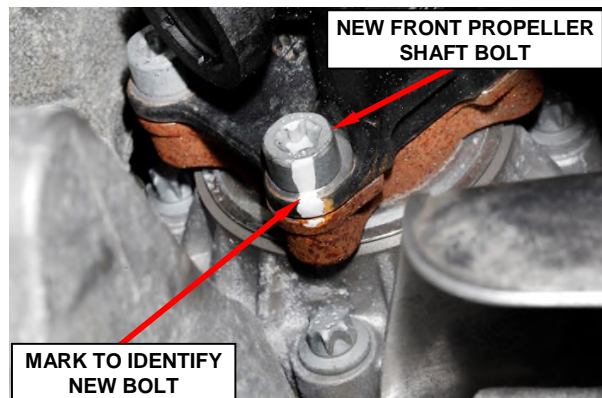

Figure 2 – Place a Mark on NEW Bolt
- c. Place a mark on the NEW bolt in order to identify that bolt has been replaced (Figure 2).